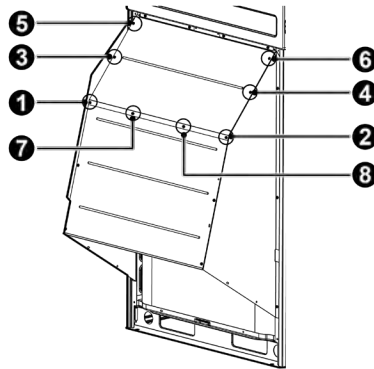

Fig. 3.19
(1) Please refer to Fig 3.19 for the installation location and sequence of screws.